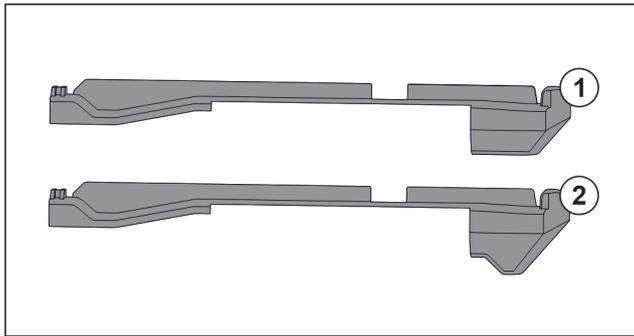

Fig. 108 Comparing attachments
There are two different attachments in the appliance. The attachment above the lowest drawer *Fig. 108 (2)* has a three-cornered edge. All other attachments *Fig. 108 (1)* have a straight edge.
- ▶ Fit attachment *Fig. 108 (2)* with the three-cornered edge above the lowest drawer.
- ▶ Fit attachment *Fig. 108 (1)* with straight edge in all other positions.